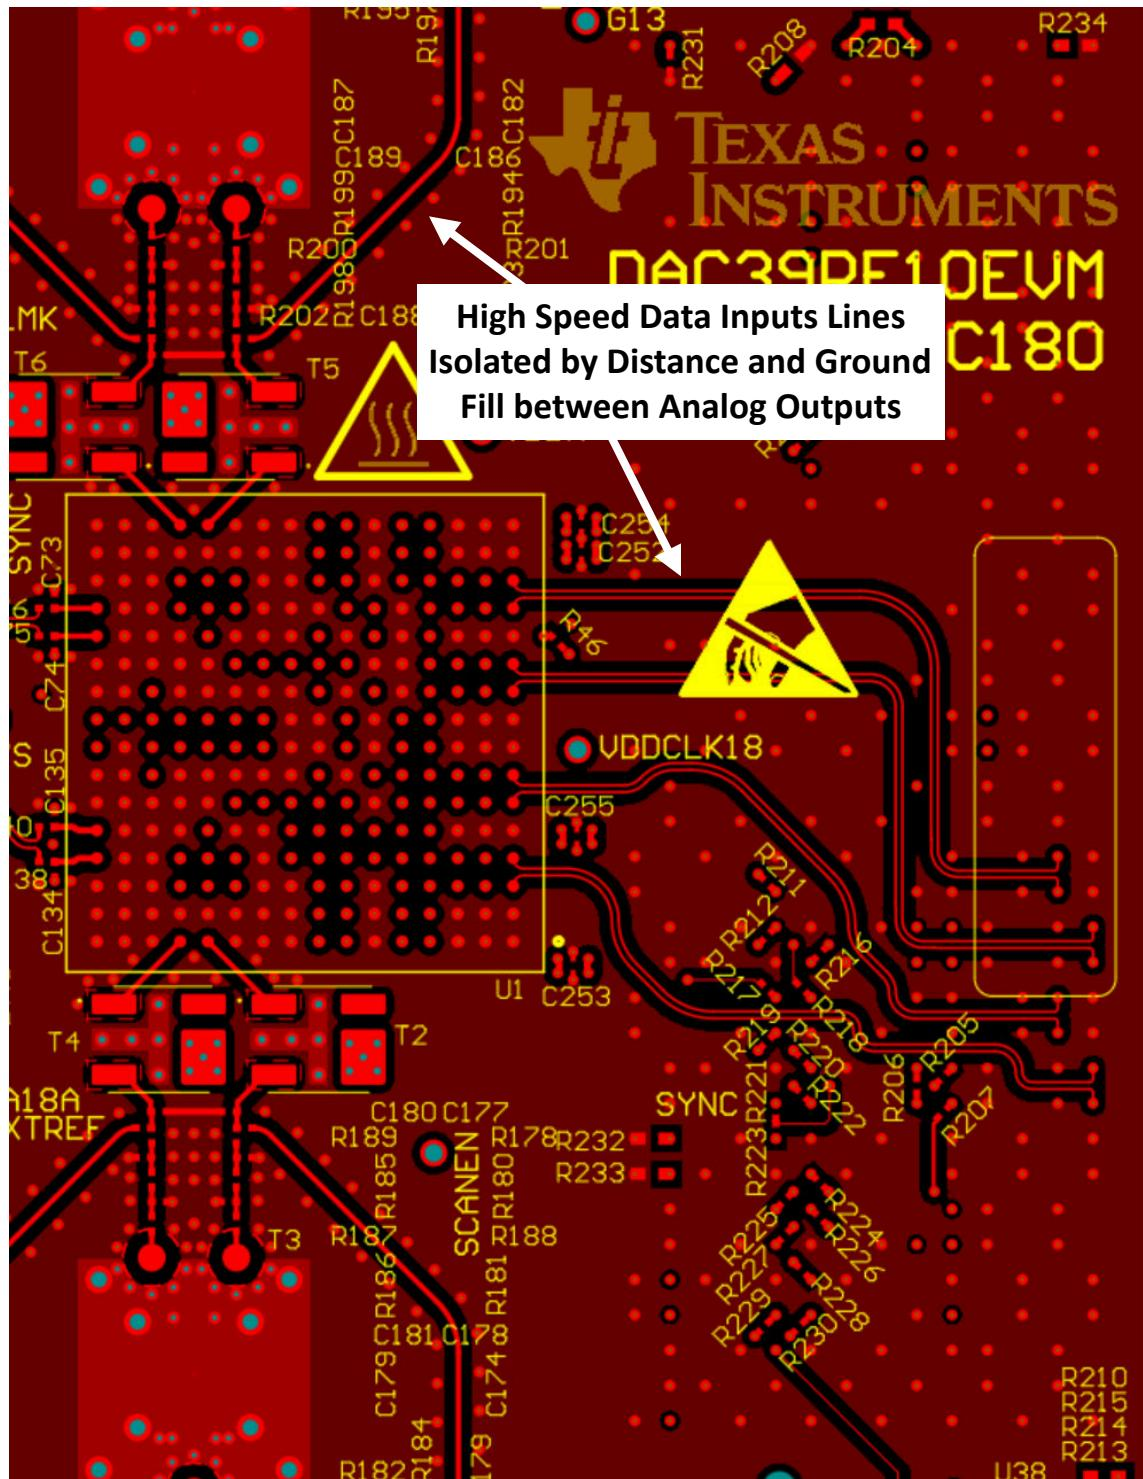

図 8-29. Serdes Top Layer Routing with Ground Fill Isolation
- Pay particular attention to potential coupling between JESD204x data input routing and the analog output routing. Switching noise from the JESD204x inputs can couple into the analog output traces and show up as wideband noise due to the high bandwidth of the DAC. Route the Serdes JESD204x data inputs on a separate layer, if possible, from the DAC output traces to avoid noise coupling, see 図 8-29 and 図 8-30 as examples.